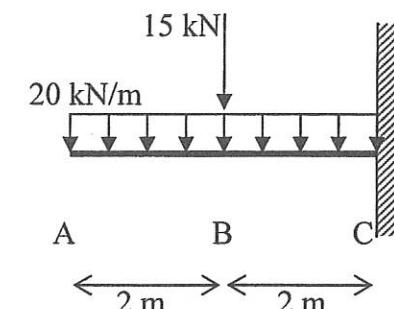

Figure Q2b/ Rajah Q2b
- (b) Figure Q2b below shows a cantilever beam. Calculate the reaction force for the support.
- (b) Figure Q2b shows a connection using 3 bolts. Given $P = 2\text{kN}$, determine the average shear stress for the bolts. Give your answer in N/mm^2